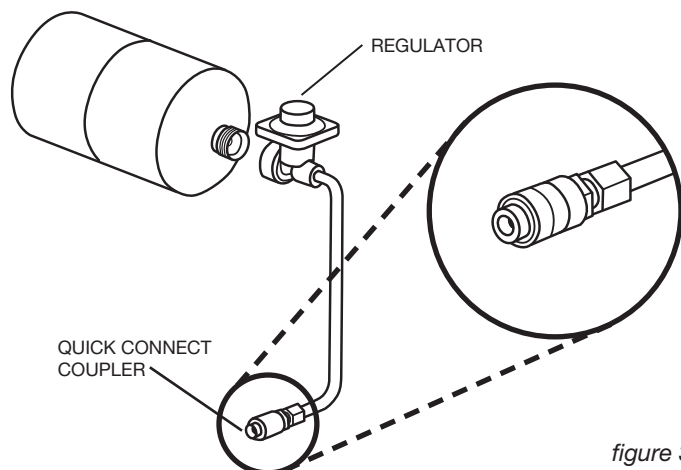

figure 3
1. While holding the regulator in one hand, push the propane cylinder into the regulator and turn clockwise until tight. Pull the quick connect coupler back until it clicks, as shown in figure 3.